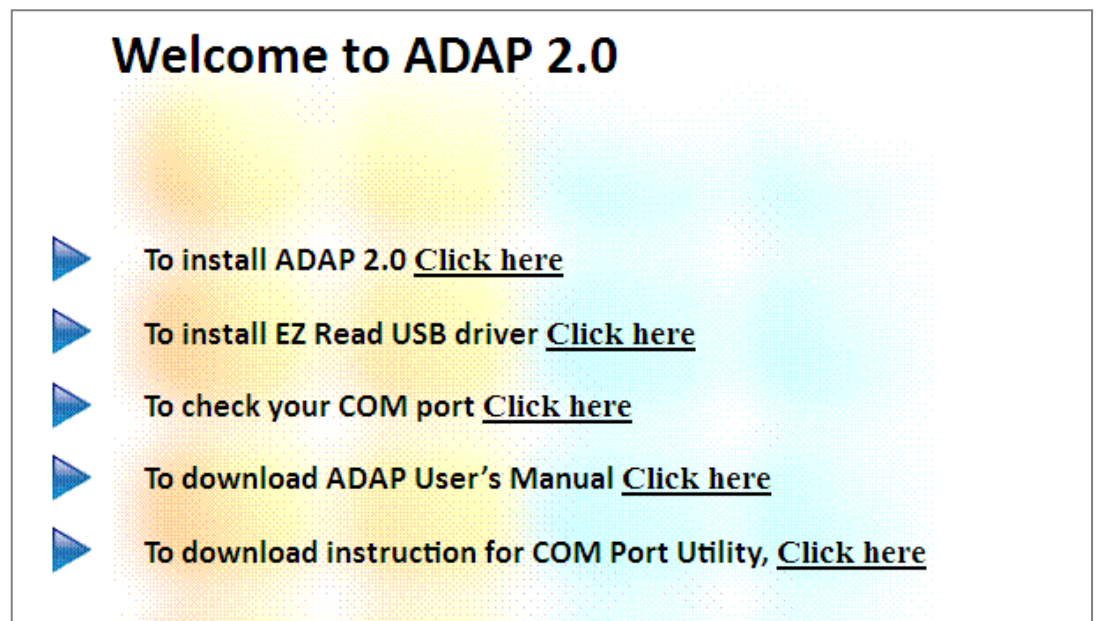

Figure 1-2 ADAP 2.0 Automatic Start Up Page
2. Insert the ADAP software installation CD into the CD-ROM drive. After a few seconds, the ADAP set up page will open automatically in your default internet browser (Figure 1-2 ADAP 2.0 Automatic Start Up Page)